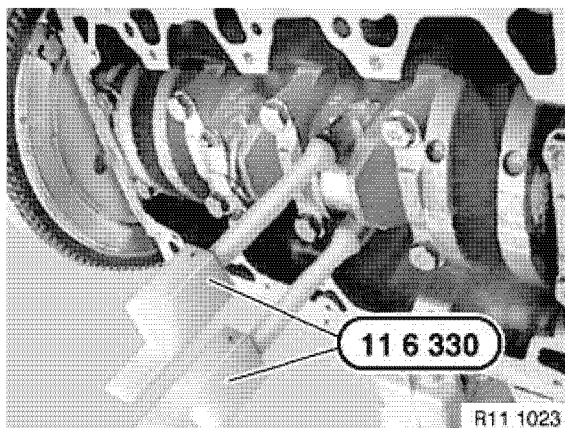

Figure 5-61
9. Remove special tool OEM No. 11 6 330 (Figure 5-61).